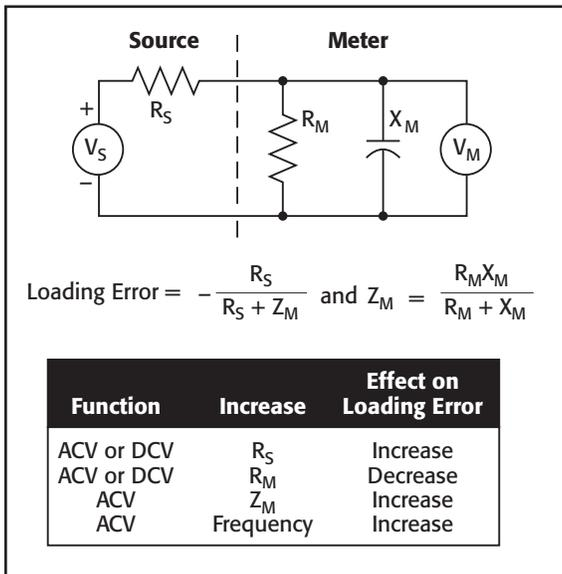

Figure 3: Loading Error
**Loading error (Figure 3)** is the difference between the voltage measured by the meter ( $V_M$ ) and the voltage of an ideal source ( $V_S$ ).